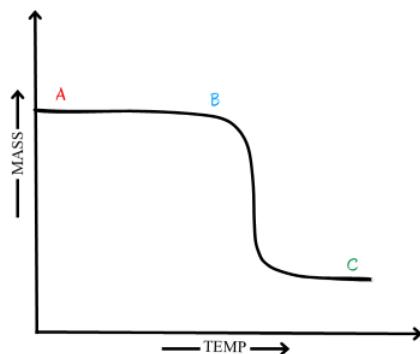

Figure 2.4 Typical TG curve
The graphical information obtained from thermogravimetric analysis is known as thermogram/pyrolysis curve. TG curve is a plot of weight (W) decreasing downwards on the y-axis (ordinate), and temperature (T) increasing to the right on the x-axis (abscissa). A typical thermogram for a single step decomposition is shown in Fig. 2.4.
In the above example (Fig. 2.4), we have considered the thermogravimetric curve which represents a single stage decomposition. Figures '1.2.5a' and '1.2.5b' show two-stage and three-stage decompositions respectively. In both these figures (2.5a and 2.5b) there is an overlay of TGA and DTG thermograms, clearly depicting advantages of DTG over TGA thermogram in locating the exact decomposition temperature.